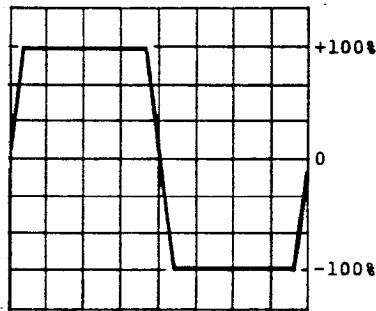

Fig. 8b (100Hz)
- STEP 3 Increase the generator output level by about 10dB. Using the 'scope vertical attenuators, adjust the squared waveform for exactly 6 graticule divisions p-p (Fig. 8b).